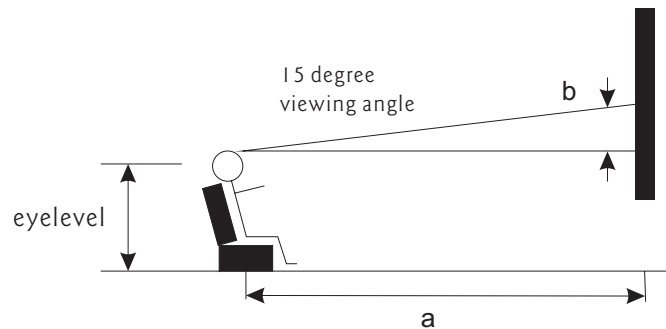

Fig 2a
- 1) the distance between wall and couch (Fig 2a).
- 2) the distance of eyelevel from ground level plus the distance measured from eyelevel of a person sitting on couch with viewing angle of  $15^\circ$  (Fig 2a).